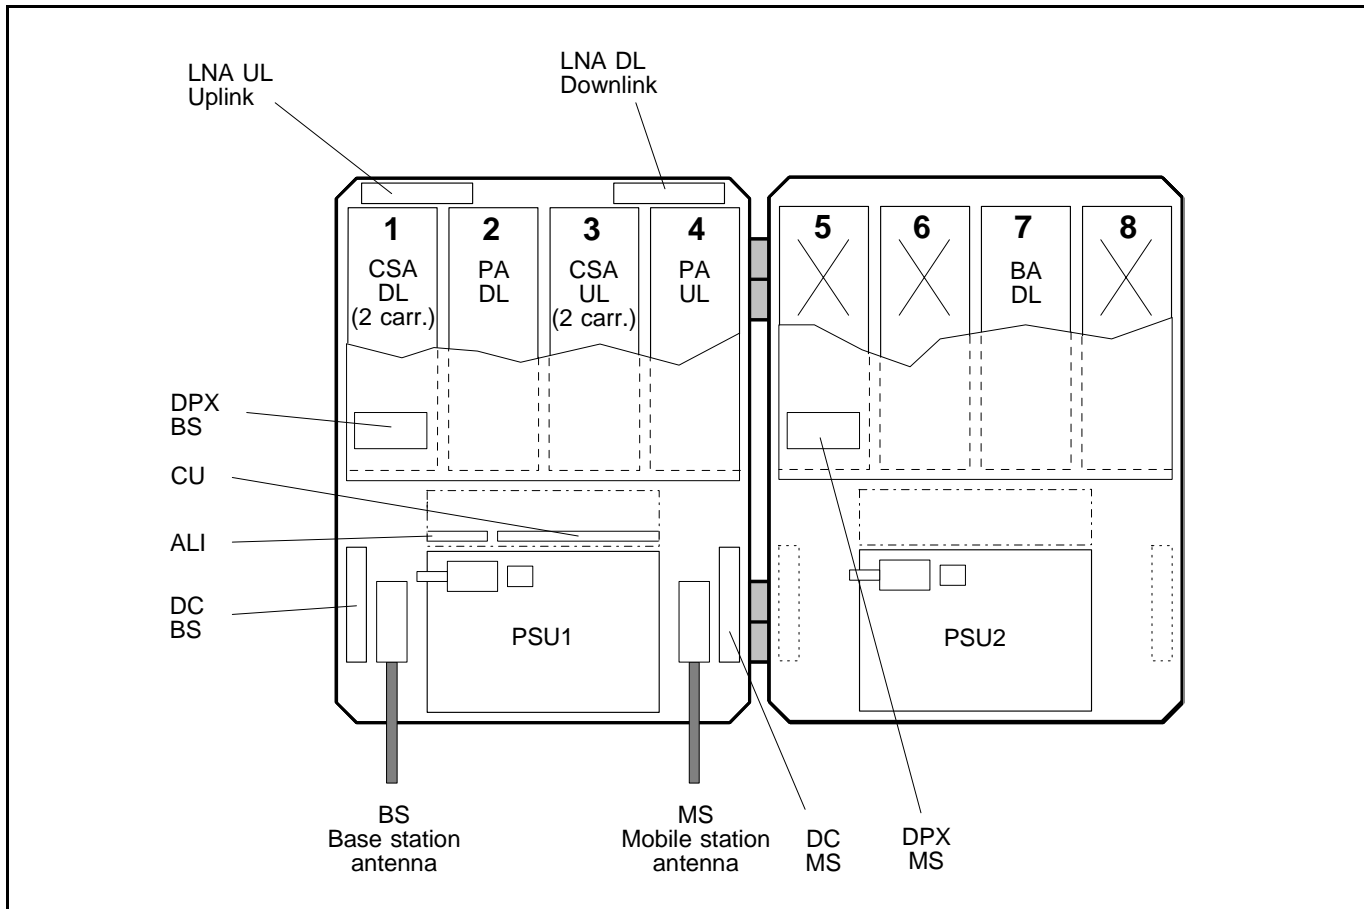

Figure 5-3. High power CDMA repeater
A cabinet (the left part in Figure 5-3) for a channel selective high power CDMA repeater can be equipped with two pair of CSA and PA boards, one pair for downlink (DL) and one pair for uplink (UL). The described cabinet has a capacity of two bi-directional CDMA carriers.
The cover (the right part in Figure 5-3) is equipped with the BA board. There is also a heat sink element on the outside of the cover, not shown in Figure 5-3.